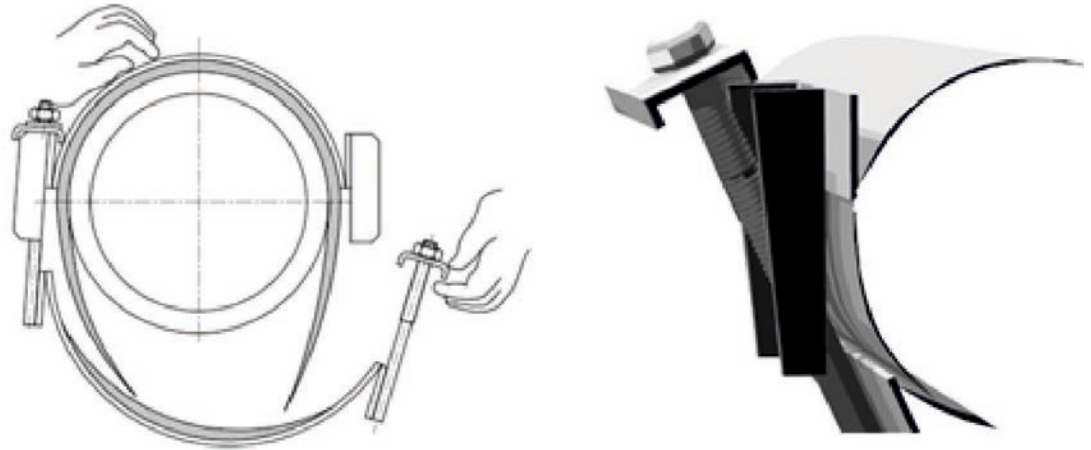

Fig. 16-8 Hooking the retaining brackets
9. Place the retaining bracket over the bolt yokes on one side and tighten the nuts by hand. The retaining bracket is hooked into the side bracket by tightening the nuts (Fig. 16-8).